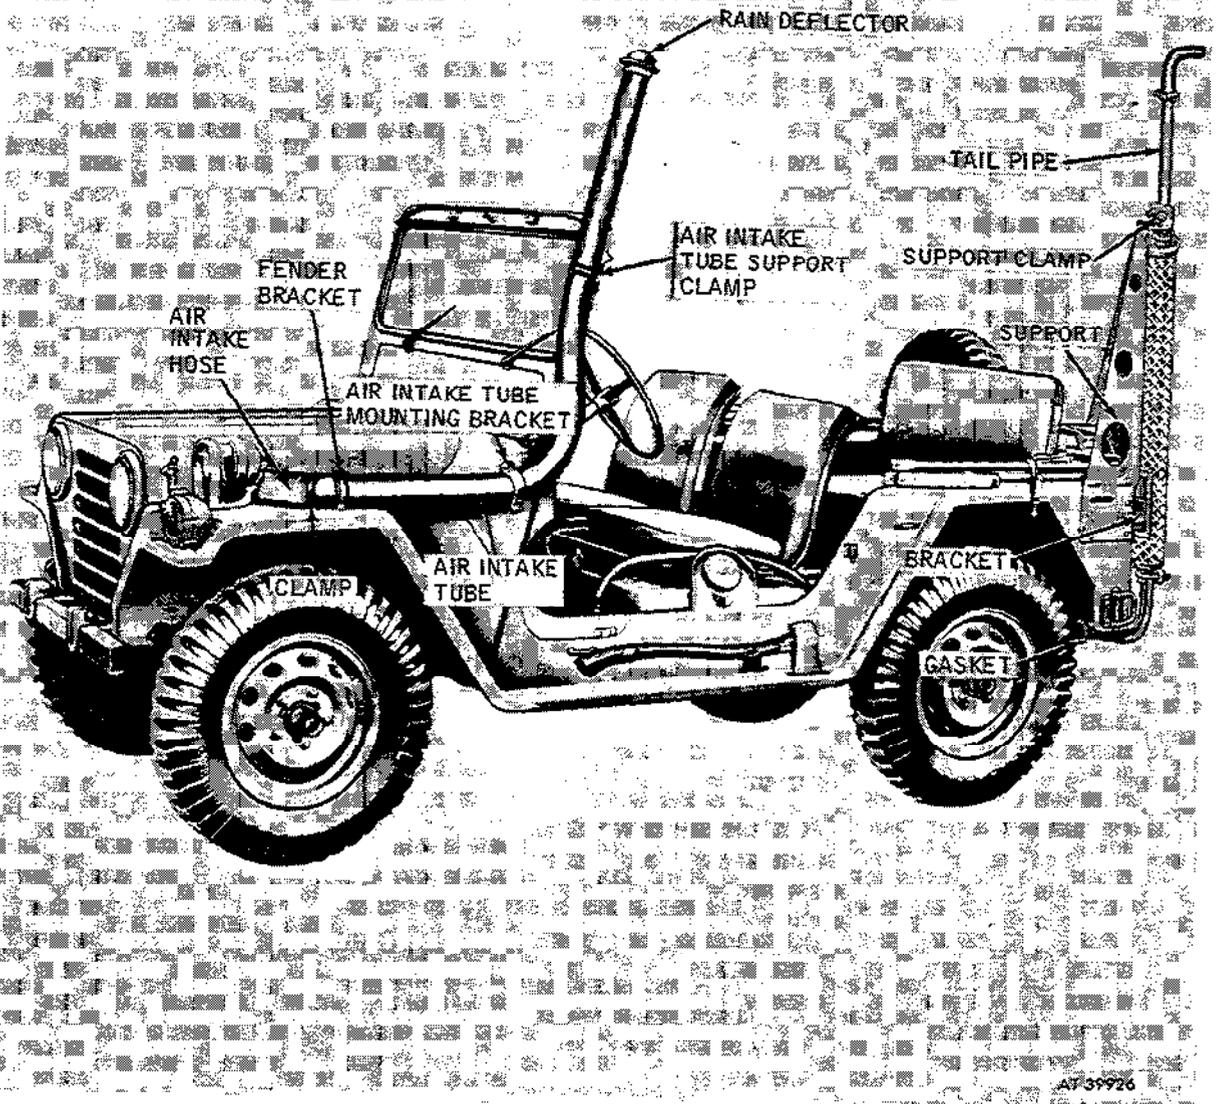
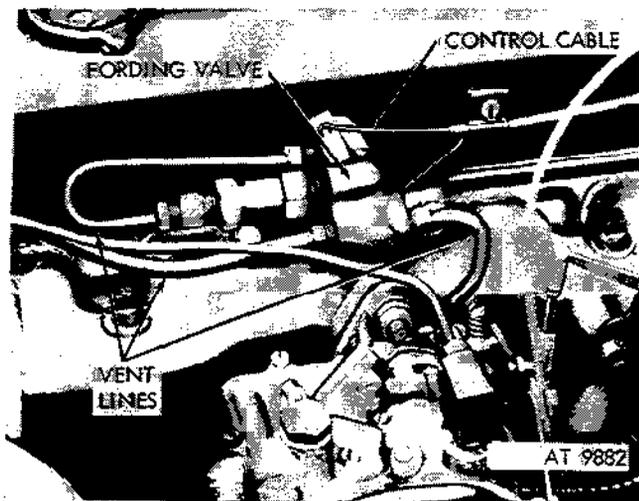

Figure 3-23. Deepwater fording kit installation.
Figure 3-24. Fording valve and cable.
The deepwater fording kit (fig. 3-23) consists of a carburetor air intake tube extension which attaches to the air cleaner and is mounted at the body left side panel. An exhaust extension tube attaches to the exhaust flanged tailpipe and is secured with a support assembly at the body left rear panels. A fording valve control (fig. 3-24) mounted on the dash panel is connected to the fording valve by means of a flexible cable. A fording valve is mounted on the intake manifold which connects various vent lines to the intake manifold. A vent tube and fitting for venting the brake master cylinder is also included. Various brackets and standard bolts and nuts necessary to install the kit to the vehicle are also included. With this kit installed, the vehicle can ford hardbottom water crossings up to 5 feet in depth.
a. *Removal.* Refer to figure 3-24.
(1) Disconnect control cable at valve operating lever by loosening retaining screw in support bracket and pulling the eyed end of the control cable off valve operating lever.
(2) Remove valve cover vent tube from ventilator valve.
(3) Unscrew ventilator valve from fording valve body.
(4) Remove carburetor vent line.
(5) Unscrew fording valve from intake manifold.
b. *Installation.* Reverse the order of (5) through (1) above.